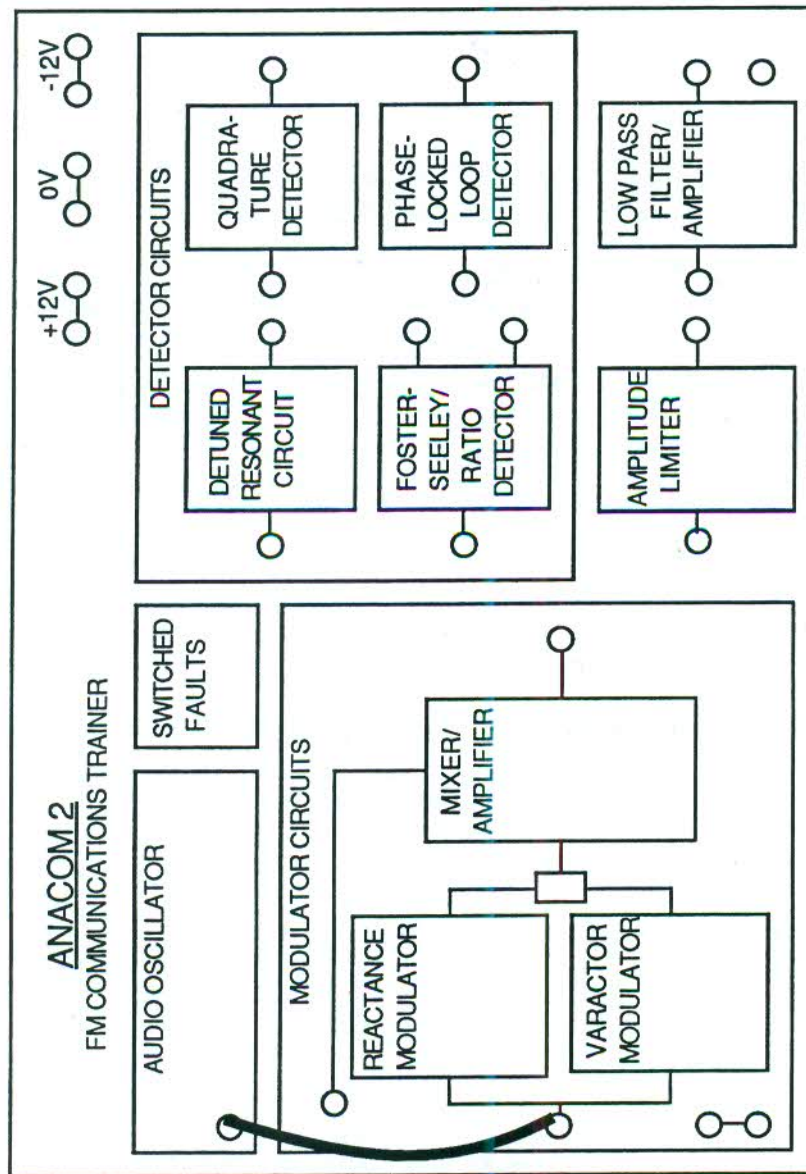

Figure 9
5. Link the OUTPUT socket of the AUDIO OSCILLATOR block to the AUDIO INPUT socket of the MODULATOR CIRCUITS block, as shown in Figure 9 at the end of this chapter.